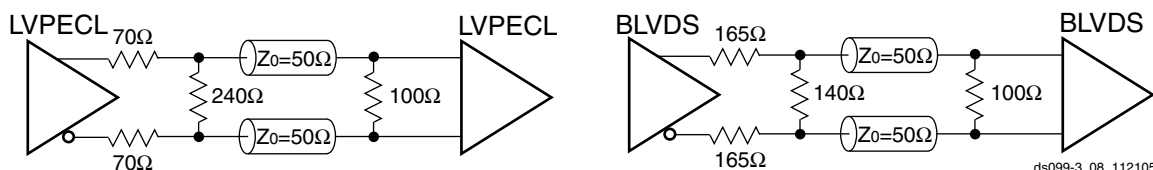

Figure 34: External Termination Required for LVPECL and BLVDS Output and Input
- Each LVPECL\_25 or BLVDS\_25 output-pair requires three external resistors for proper output operation as shown in Figure 34. Each LVPECL\_25 or BLVDS\_25 input-pair uses a 100 $\Omega$  termination resistor at the receiver.